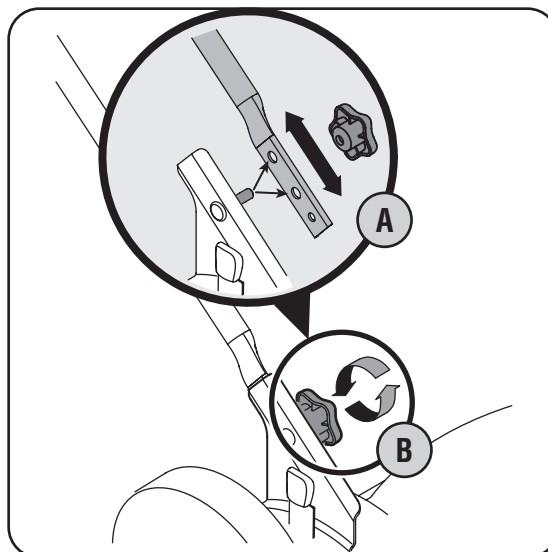

Figure 3-3
3. If satisfied with height of handle, tighten wing nuts at the ends of the lower handle shown in Figure 3-3. For convenience of operating, you may adjust the handle height by removing the wing nuts and removing the lower handle.
- a. Position each handle bracket stud into the top hole in the lower handle. See Figure 3-3 inset.